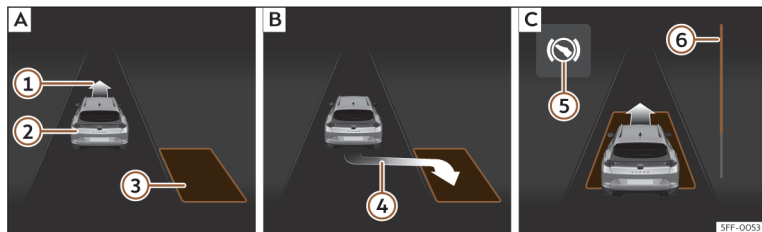
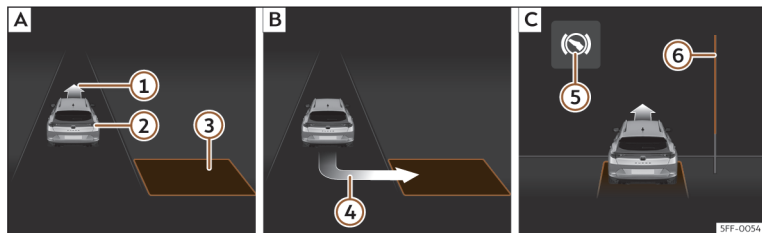

Fig. 192 On the instrument panel display: parallel parking. **[A]** Finding a parking space. **[B]** Parking position. **[C]** Manoeuvring.
Fig. 193 On the instrument panel display: angle parking. **[A]** Finding a parking space. **[B]** Parking position. **[C]** Manoeuvring.
- Look at the display on the instrument panel to see if the space has been detected as “appropriate” and if the correct position for parking has been reached»» Fig. 192 **[B]** or»» Fig. 193 **[B]**. The space is considered
- Reverse until the continuous ParkPilot signal sounds; **OR:** reverse until the indication to move forward appears on the instrument panel display»» Fig. 192 [C] or»» Fig. 193 [C]; **OR:** reverse until the **Park Assist finished** message appears on the instrument panel display. The progress bar (6) indicates the distance to cover»» page 278.
- Press the brake pedal until the parking assist system completes the steering wheel turns; **OR:** until the symbol (S) goes out on the instrument panel screen.
- Move forward until the continuous ParkPilot signal sounds; **OR:** move forward until the reverse indication appears on the instrument panel display. The Park Assist system steers the vehicle forward and back until it centres it in the space»» Fig. 192 [C] or»» Fig. 193 [C].
»» Fig. 192 (6) and»» Fig. 193 (6) on the screen of the instrument panel displays the relative distance to be covered. The greater the distance, the fuller the progress bar. When driving forward, the content of the progress bar decreases upwards, and when reversing, it decreases downwards.